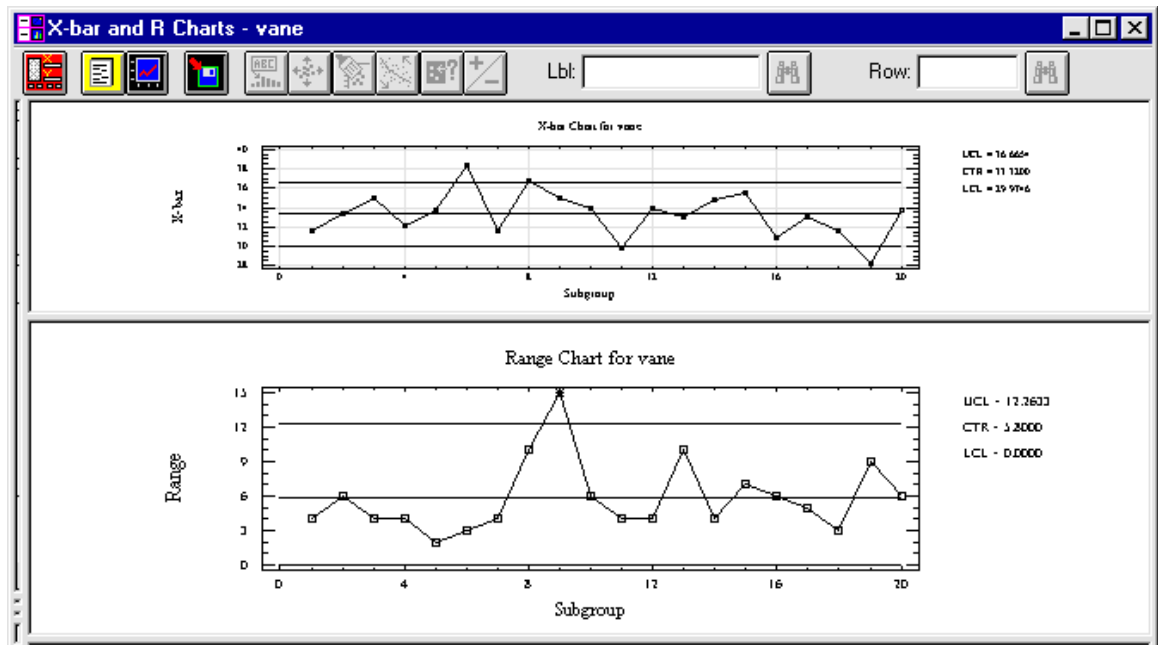

Figure 1-4. X-bar and R Charts Showing Out-of-Control Limits
7. Click the Graphical Options button to display the dialog box, then click the Range Chart check box, and OK to display the X-bar and Range charts in the graphics panes (see Figure 1-4).